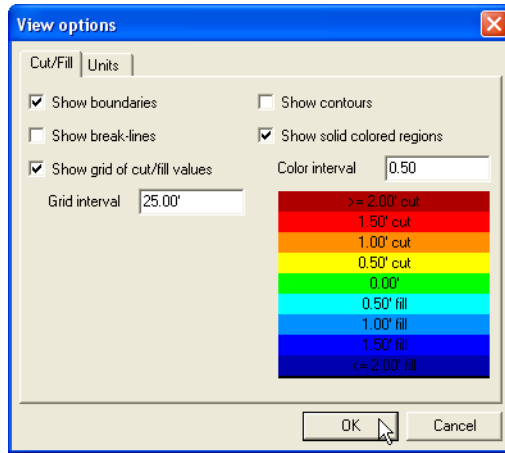

Figure 10-9. Set Cut/fill View Options
2. On the *Cut/fill* tab, select and enter the following information (Figure 10-9 on page 10-9):